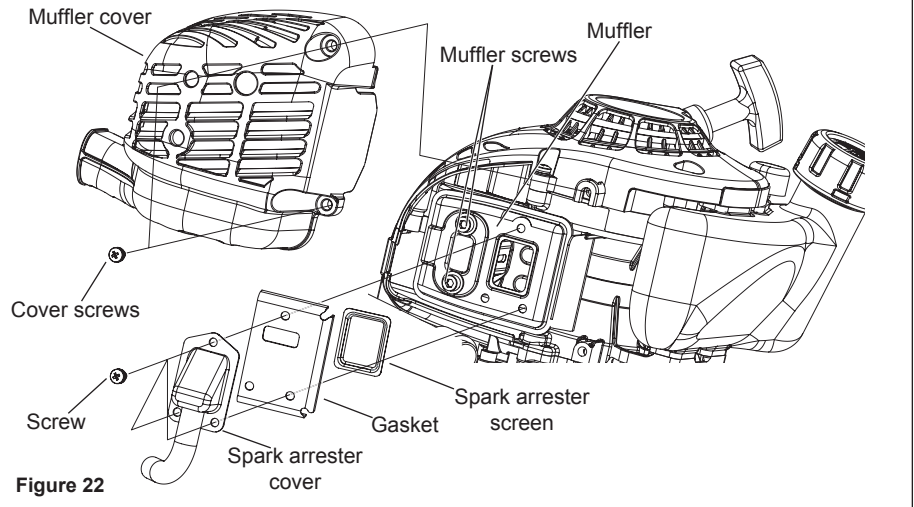

Figure 22
1. Remove the muffler cover. See Figure 22.
2. Remove the spark arrester screen, gasket and spark arrester cover. See Figure 22.
3. Remove the muffler. See Figure 22.